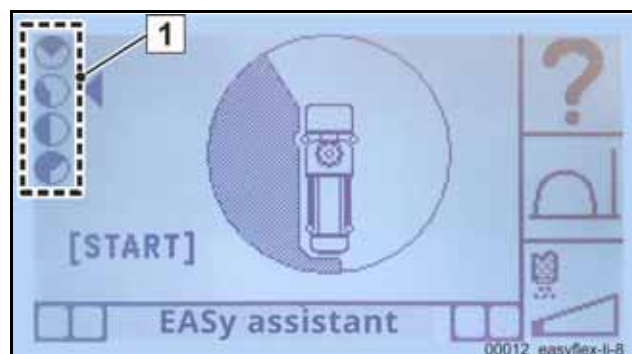
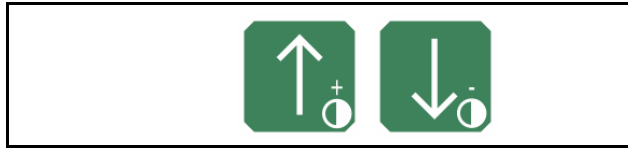

Fig. 538 Example selection: EASy "left"
Fig. 539
The EASy assistant detects the selected position and indicates the next step (**Fig. 538**):
- Using the arrow keys (9 and 10 **(Fig. 539)**), select one of the symbols (1;**(Fig. 538)**) for the required EASy variant.
For example, the EASy variant EASy "left" is selected in **(Fig. 538)**.